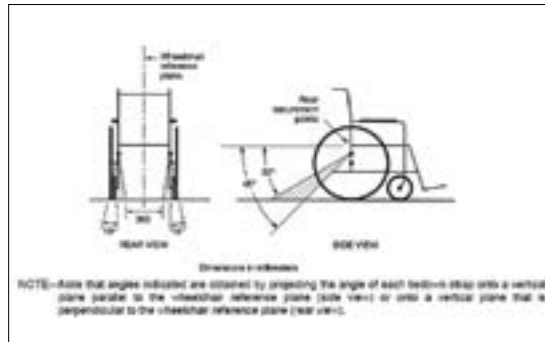

Figure 3
5. Press the yellow button(s), (Fig 1B), to release the webbing and extend and attach each of the karabiners or tongue and buckle arrangements to the wheelchair frame creating an angle of around 40 to 60°, (Fig 3). (Some wheelchairs will indicate these tie-down positions, Fig 4).
5. Press the yellow button(s), (Fig 5A), to release the webbing and extend and attach each of the karabiners or tongue and buckle arrangements to the wheelchair frame, creating an angle of around 40 to 60°, (Fig 3). (Some wheelchairs will indicate these tie-down positions, Fig 4).